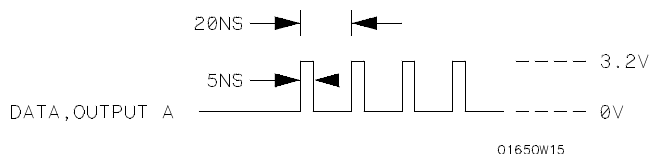

Figure 3-30. Waveform for Glitch Test
- Adjust pulse generator for the output in figure 3-30.